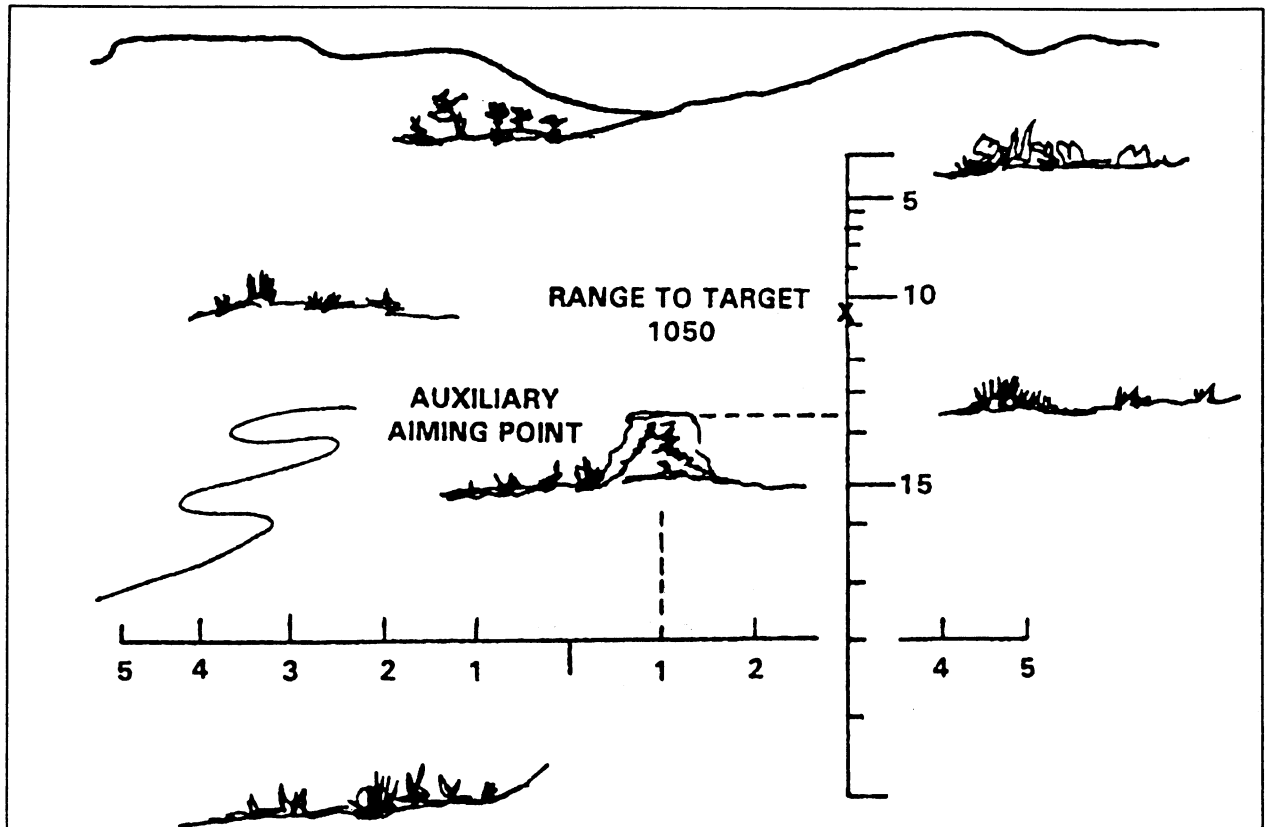

Fig 4-33. Binocular method.
- (1) Binocular method. The team leader selects a clearly defined object in the vicinity of the target (see fig 4-33). Using the inverted leaf sight, he aligns on the target the graduation that corresponds with the range to the target (1050). Keeping the binocular in that position, he reads the graduation on the scale opposite the auxiliary aiming point. When the auxiliary aiming point is not on the gun target line, the deflection is read on the horizontal mil scale of the binocular. Using these readings as the sight setting and deflection (for example, range 1,350, sight right 20), the gunner lays on the object selected as the auxiliary aiming point and fires, distributing the fire as ordered by the team leader.